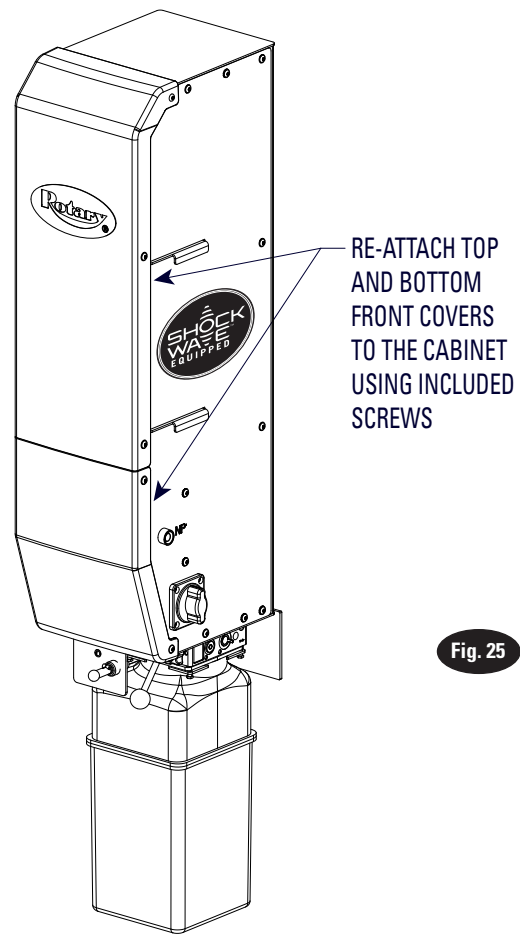

Fig. 25
17. **Close DC Control Cabinet:** Re-attach the front plastic covers to the DC control cabinet using the same button head cap screws, Fig. 25.